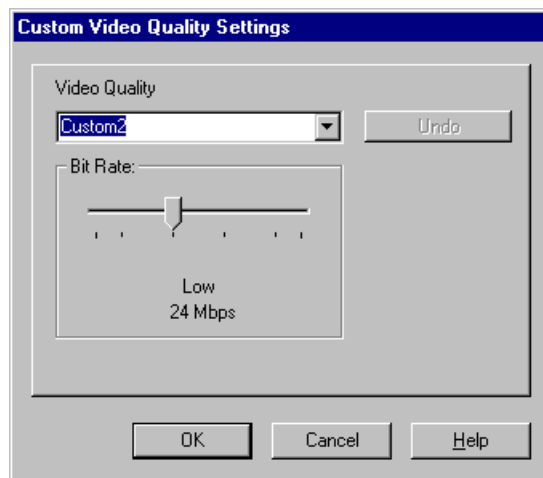
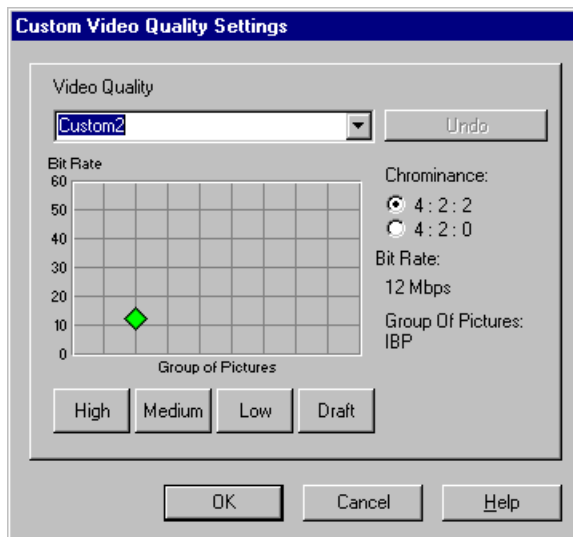

Figure 57. Custom Video Quality Settings dialog box, JPEG
Figure 58. Custom Video Quality Settings dialog box, MPEG
7. To change a custom quality setting, click the button next to the Video Quality list box, and the Custom Video Quality Settings dialog box appears. Select either **Custom1** or **Custom2** in the Video Quality list box. When selected, you can change the name of a custom setting. For JPEG (see Figure 57), select a video quality with the slider (see range in Table 6). For MPEG (see Figure 58), move the diamond on the grid or click the High, Medium, Low, or Draft button—the corresponding bit rate and picture structure is show on the right side of the dialog box. Click **Undo** to undo changes and **OK** when done.